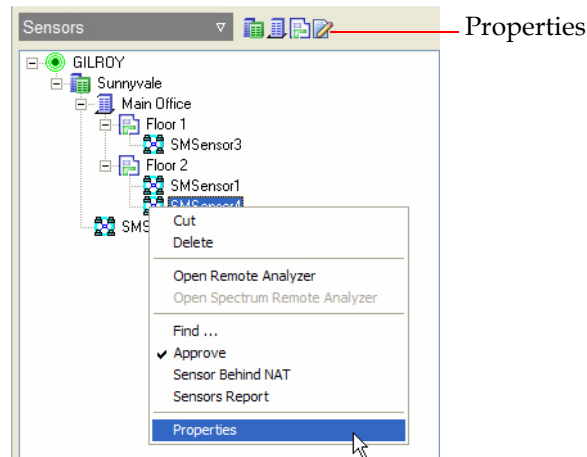

Figure 12-25: SmartEdge Sensor right-click menu
- 1) From your network Location Tree on the AirMagnet Enterprise Console UI, highlight the network node (e.g., AirMagnet Enterprise Server, city, building, floor, AirMagnet SmartEdge Sensor), and click  (Properties) from the top of the screen. Or right-click the node and select **Properties** from the pop-up menu. See Figure 12-25.